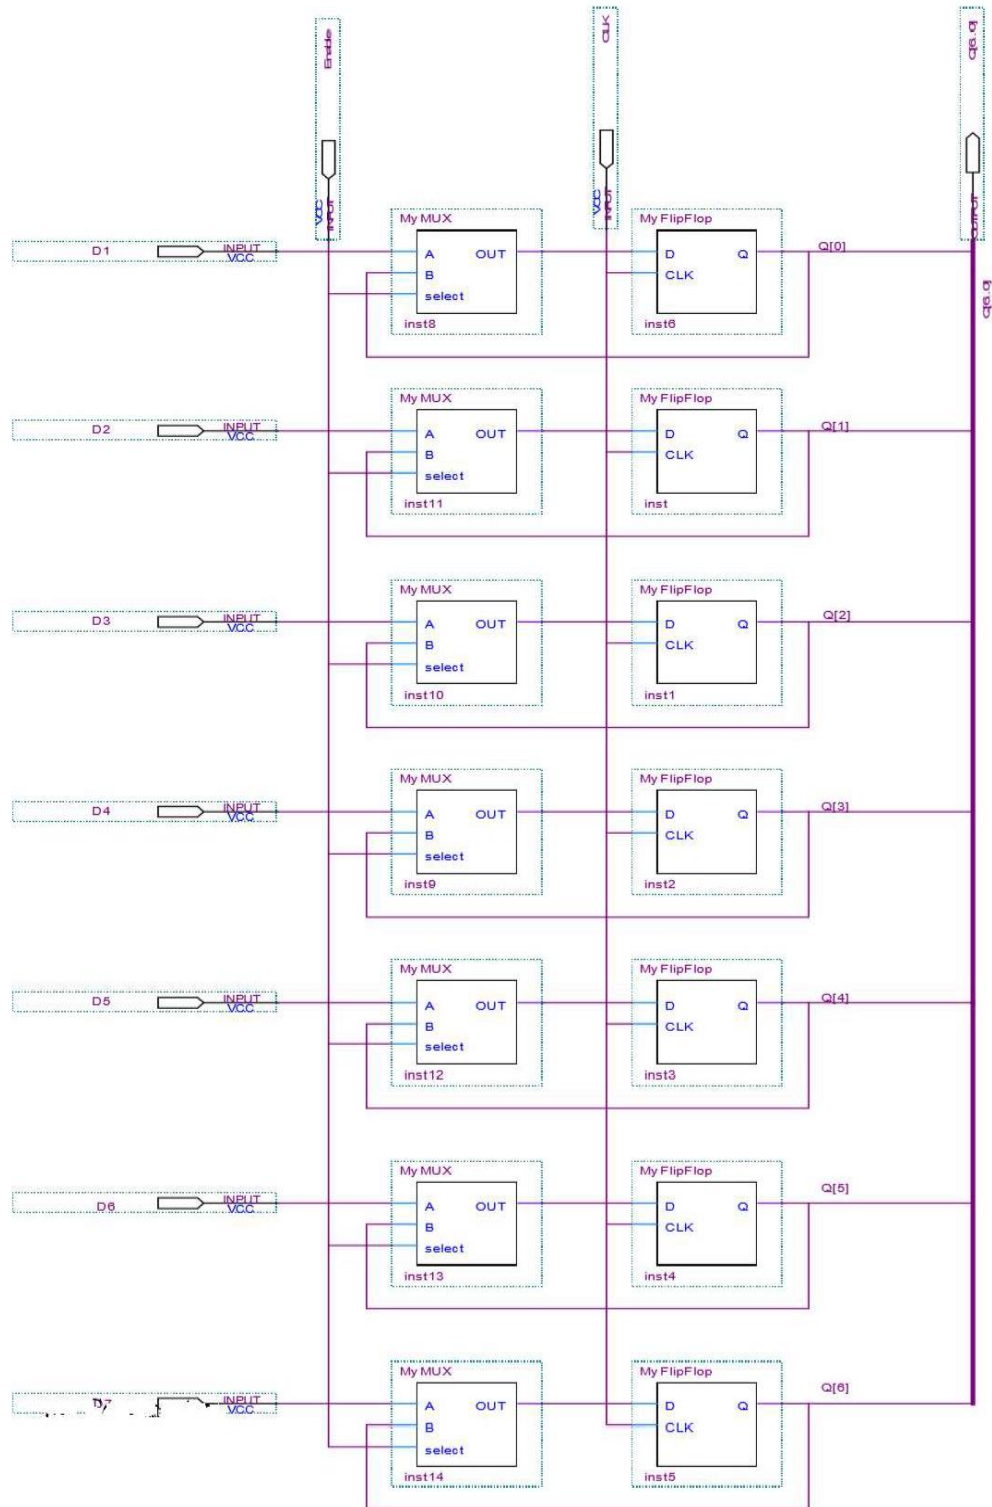

Figure 9.8: Memory System Block Diagram.
5. Use a block diagram to build the design shown in Figure 9.8.